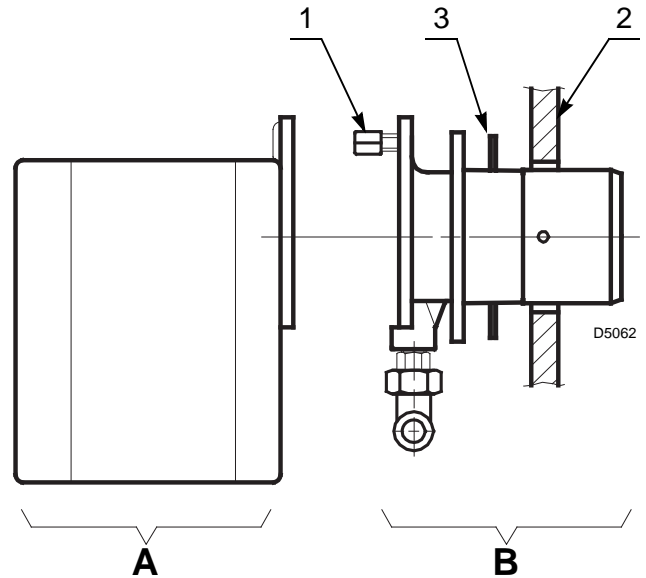

Fig. 8
- Separate the combustion head assembly from the burner body by removing nut 1) and removing the group A)(Fig. 8).
- Fix the group B)(Fig. 8) to the boiler plate 2), inserting the supplied insulating gasket 3).